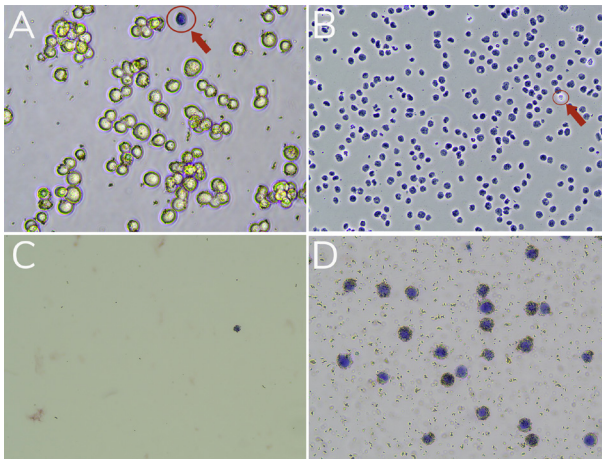

FIGURE 11
3. Transfer 10 μ L to a cell counting slide. Obtain cell counts and determine viability using a brightfield/phase microscope or cell counter. See **Figure 11**, next page.
7. Transfer 10 μ L nuclei to a new tube. Evaluate integrity using Trypan Blue staining as in Steps 2 & 3 (above). See **Figure 11** for expected results.
13. To samples that were set aside (**unbound fraction**, **sample slurry**), perform Trypan Blue staining as described in Steps 2 & 3. See **Figure 11** for results.